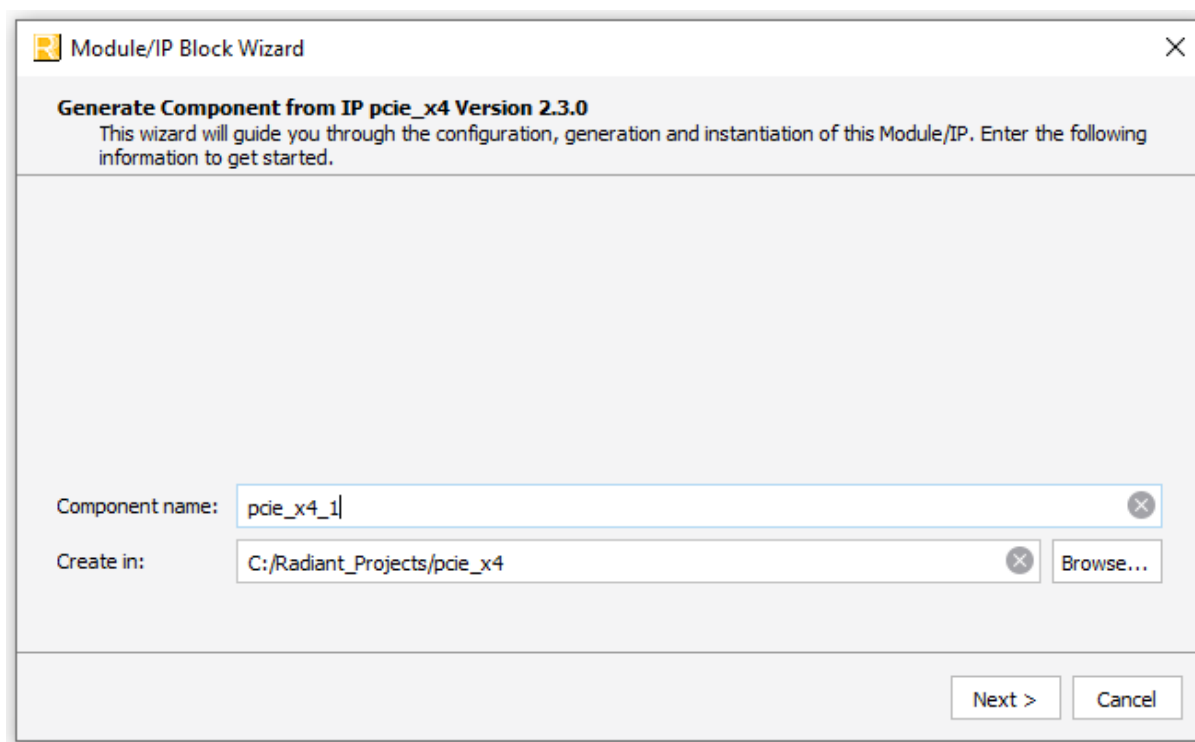

Figure 7.1. Module/IP Block Wizard
2. In the **IP Catalog** tab, double-click **PCIE_X4** under **IP, Connectivity** category. The **Module/IP Block Wizard** opens as shown in Figure 7.1. Enter values in the **Component name** and the **Create in** fields and click **Next**.
- Click **Finish**. All the generated files are placed under the directory paths in the **Create in** and the **Component name** fields shown in Figure 7.1.